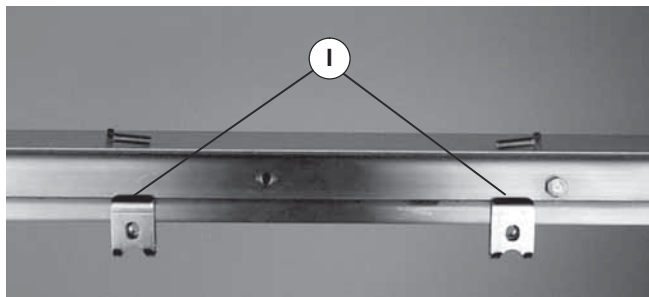

Figure 3
1. Position clips (Figure 3, item I) as shown.